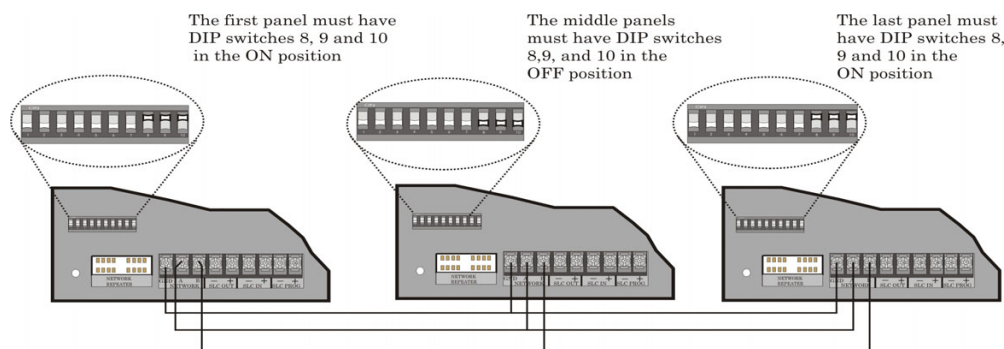

Figure 5-2 DIP Switch Terminations Settings for Direct Connect Wiring Option
2. Make the network wiring connections. The cable used must be shielded twisted pair 18 gauge or larger wire. See Figure 5-2 on page 2 for the DIP switch termination settings for Direct Connect wire option. Run one of the twisted pair wires from the NETWORK A terminal on one panel to the NETWORK A terminal on the next panel. Use the other wire of the twisted pair to connect the NETWORK B terminals together. Run the network ground connection using the twisted pair shield between the NETWORK GND terminal on both panels. Repeat this for each additional panel until all A, B and GND terminals are wired together as a BUS.
3. Configure the network terminators. The panels at both ends of the network bus must have DIP switches 8, 9, and 10 set to the "ON" position. All panels that are not at the BUS ends must have the terminators set to the OFF position. See Figure 5-2 on page 2.